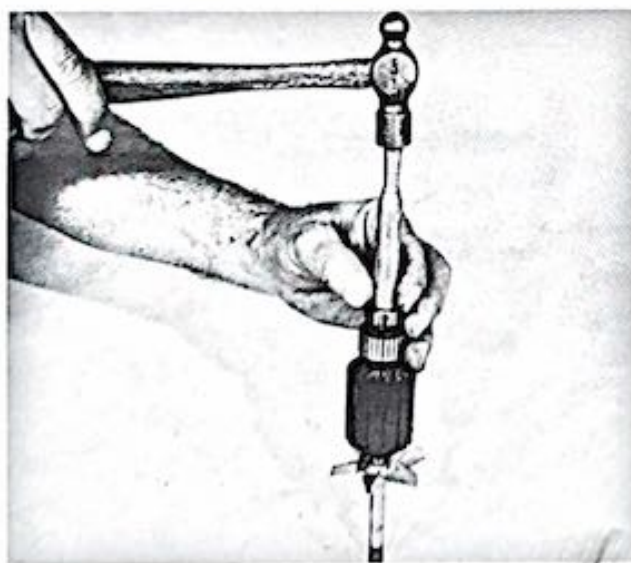

Figure 1-23. Installing rear bearing on armature
h. Position the rear bearing (42) with the open side away from the armature on the commutator end of the armature shaft. Drive into place, using a discarded fan pulley and hammer as shown in figure 1-23. Be sure that the bearing has been packed with fresh lubricant.